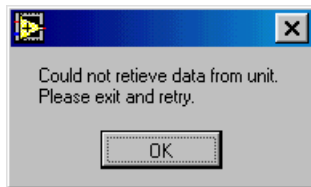

Figure 6-11. Could Not Retrieve MTIE Data Message Box
- **OK** — Click to display the selected MTIE data. If there is not sufficient MTIE data to create the graph and table, the software displays the message (Figure 6-11):